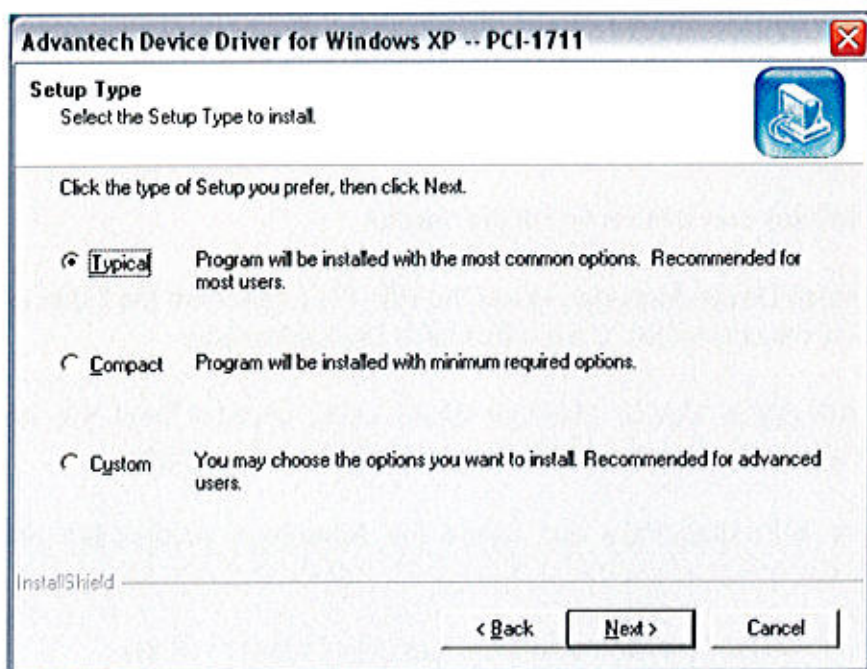

Figure 14 Setup Type window
14. Click 'Next' to proceed. Select the Typical installation (Figure 14) and click 'Next' to continue to the setup information window.